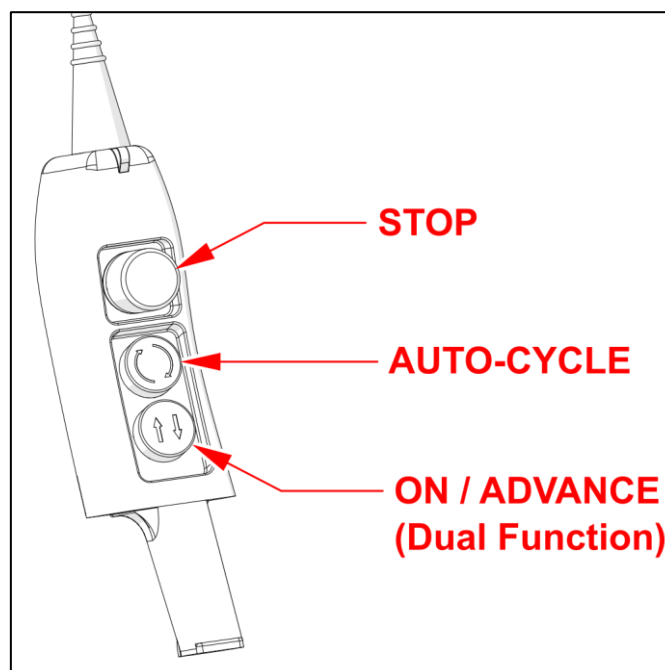

Figure 6.2: Pendant Control Buttons
2. Turn the pump ON by pressing the 'advance button' once. (See figure 6.2)
6.3 Pendant Control Buttons (figure 6.2)
(See figure 6.2)
6. Turn the pump off by pressing the 'Stop' button on the control pendant. (See figure 6.2)